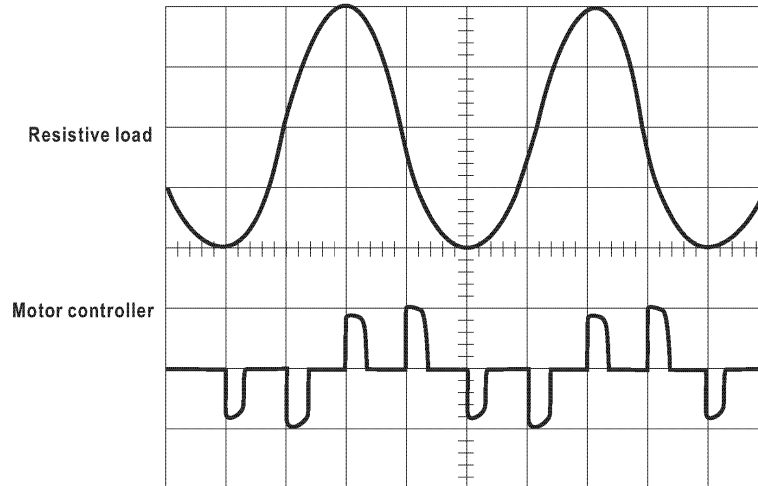

Figure 6: Typical current waveforms
5. Adjust the oscilloscope’s time base as necessary to get a clear and stable view of the signal. Set the oscilloscope input to DC volts to see both the AC and DC currents, or set the input to AC to see the AC current only. Figure 6 shows the difference between the line current drawn by a resistive load and a motor controller.